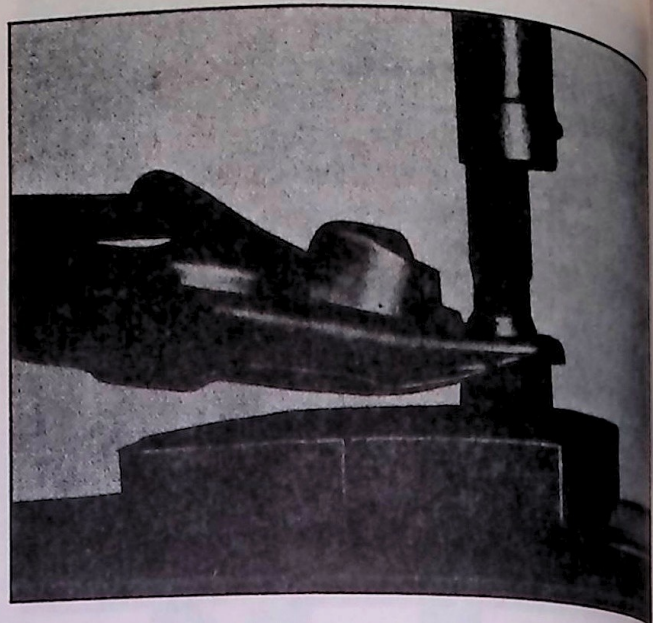

Fig. 16—Removing Lower Ball Joint
2. Place control arm over remover support and, with appropriate remover, press out ball joint (fig. 16).